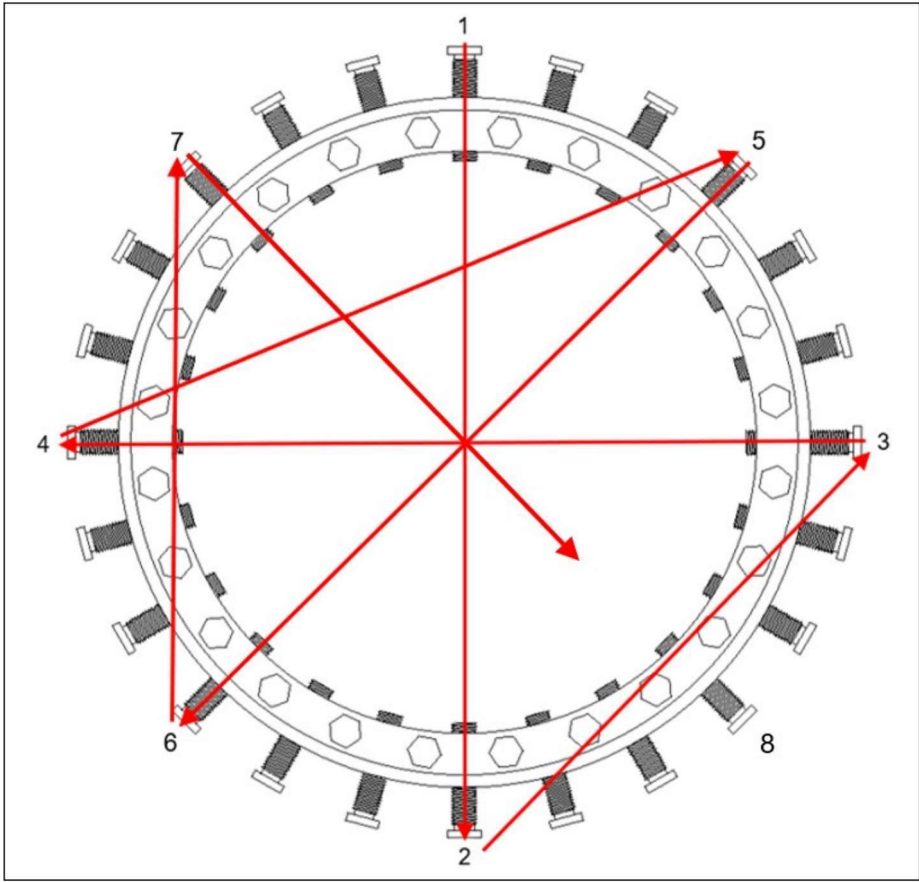
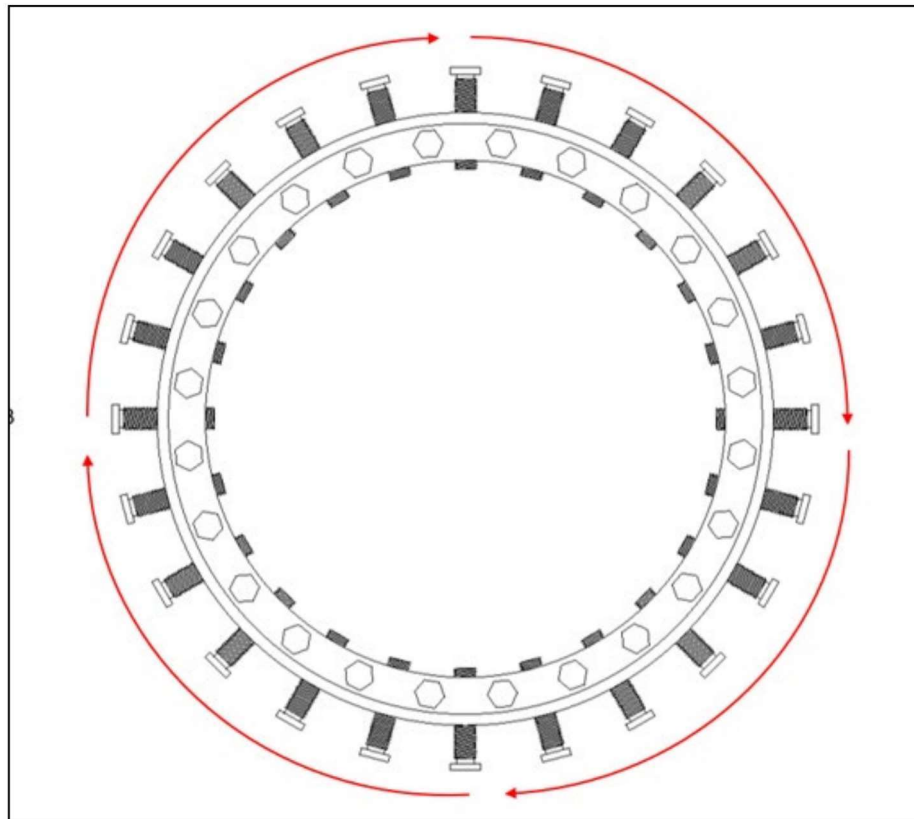

Figure 5
Figure 6
10. Tighten the clamp screw row closest to the seals first. Clamp screws must be tightened evenly, maintaining an equal space between the pipe and the fitting while using the recommended torque values. Torque the clamp screws one at a time in a repeated crisscrossed star sequence that matches Figure 5. The first time through the sequence, tighten at 25% of the torque. The second time through, tighten at 50% of the torque. The third time through, tighten at 100% of the torque. Then, follow a circular tightening sequence, that matches Figure 6, at 100% torque, until the clamp screws are unable to continue spinning. Repeat procedure for the second row of clamp screws.